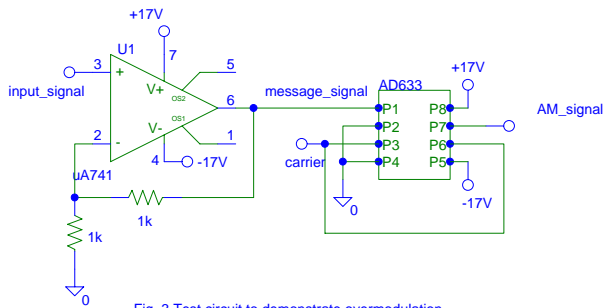

Fig. 3 Test circuit to demonstrate overmodulation.
1. With the power supply off, assemble the circuit of Fig. 3. Use FG1 as the input signal and FG2 as the carrier signal. Set the following parameters in FG1: Amplitude=6.5 V, Frequency=500 Hz, sine wave. For FG2: Amplitude=5 V, Frequency=18 kHz, sine wave. Use the channel 1 probe of the oscilloscope to observe the AM signal.